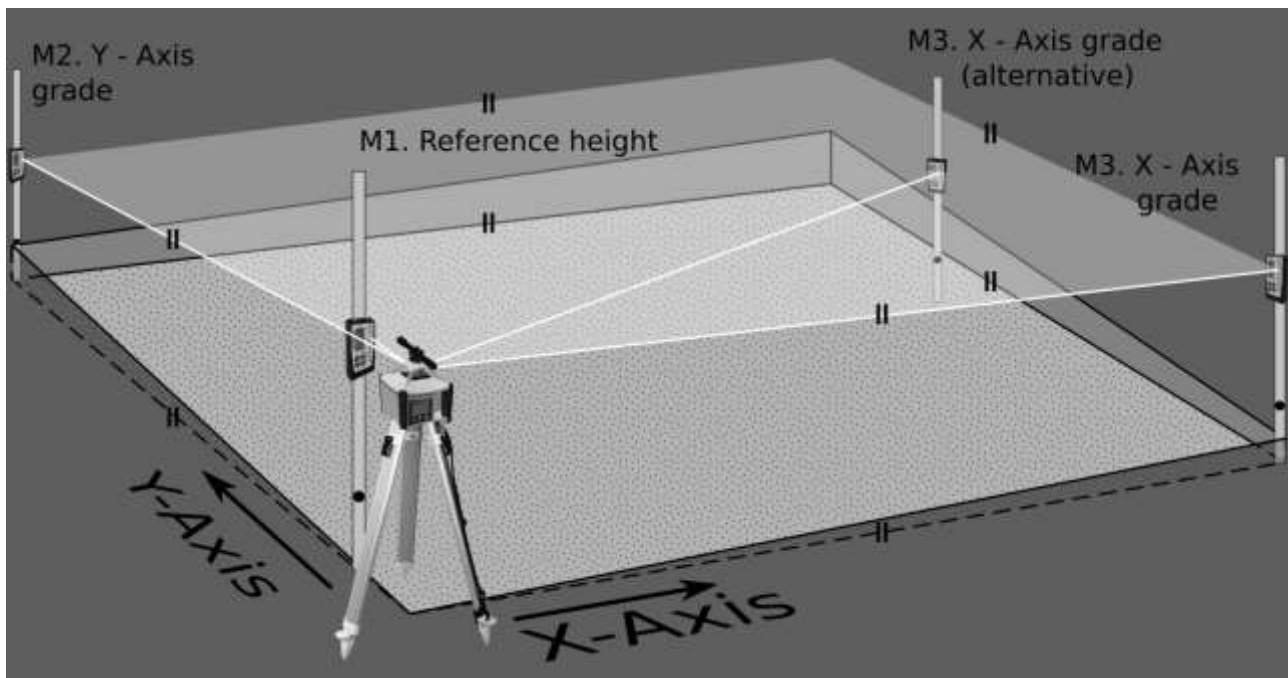

Figure 1: ALIGN setup – Horizontal
First set up the static head horizontally, as described under Section 4 and set the laser in the Y direction flush with the first target point M2 (Figure 1). Use the telescopic sight (option) if the determined grade values are to be as accurate as possible.
Then set up the laser yardstick with the detector as short a distance away from the laser as possible (Figure 1: M1 reference height) and switch on both devices as described in Sections 1 and 13.2 and place the detector centre level with the laser beam.
14.1.2.1 Slope Y axis (Figure 1)
14.1.2.2 Slope Y- and X - axis (Figure 1)